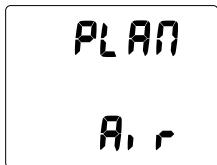

Fig. 45A - PLAN (FO2 = AIR)
**PLAN MODE LEAD-IN**, information includes (Fig. 45A/B):